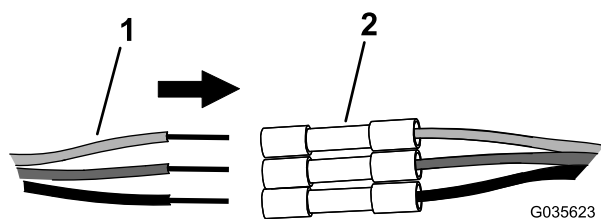

Figure 3
7. Install the wires into the heat-shrink splices of the kit wire harness, matching the colors of the wires (Figure 3).